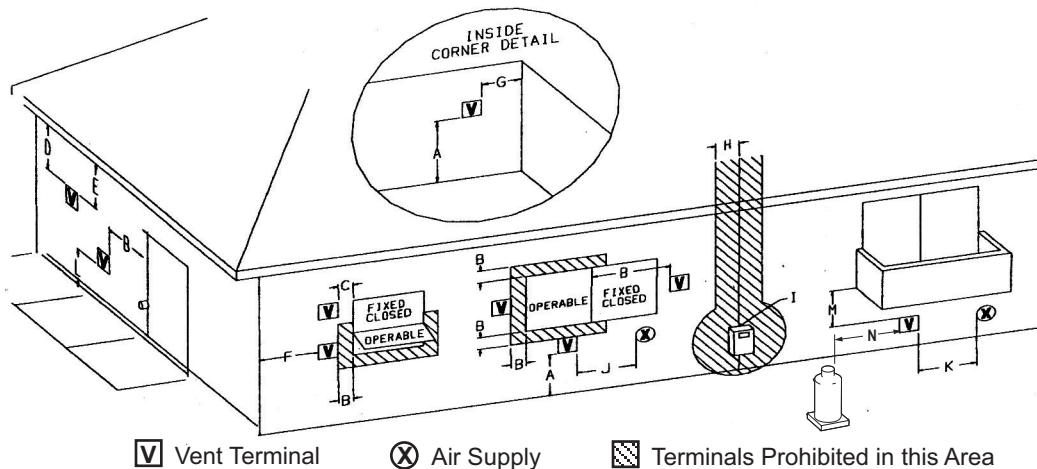

Figure 19. Vent Terminal Clearances per National Fuel Gas Code.
- Follow all termination clearance guidelines as specified in fig. 19.